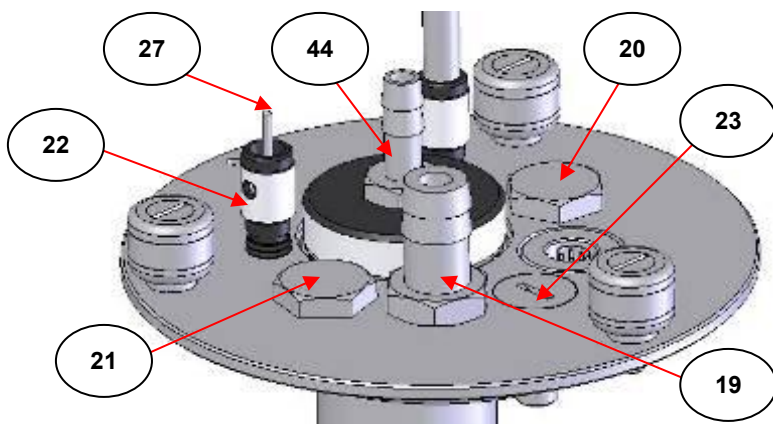

Fig 8. VT Cell Blanked Off Ports When Supplied as Standard
As standard any access port through the top plate that is not utilized during operation of the VT Cell Accessory **must** be plugged to maintain a vacuum. Both versions of VT Cell P/N's GS21525 and GS21530 are supplied as standard with blanking plugs at port positions (20), (21) and (23) and a blanking rod (27) at port position (22). (See Fig 8.)